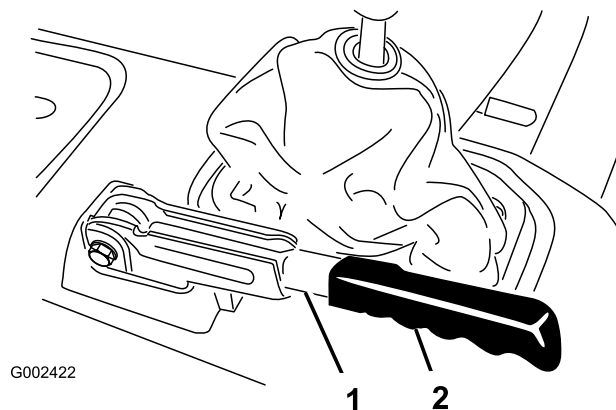

Figure 54
1. Remove the rubber grip from the parking brake lever (Figure 54).